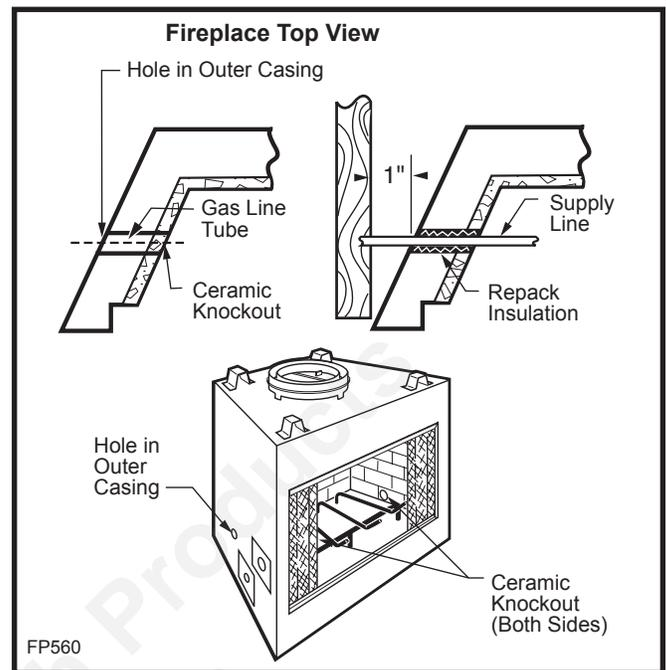

Fig. 3 Gas line installation - factory-built fireplaces.
Insert a 1/2" gas pipe through the gas line tube provided by the manufacturer, from outside the fireplace, as marked by the manufacturer. An ON/OFF valve should be placed within easy reach of the appliance. After the gas supply is installed, reinstall the insulation removed from the gas line tube, and pack it around the pipe, to prevent cold air entry and to protect the gas line. (Fig. 3)
NOTE: The gas pipe should not come into contact with any wood structure until it has reached a point at least one (1) inch away from the fireplace side. (Fig. 3)